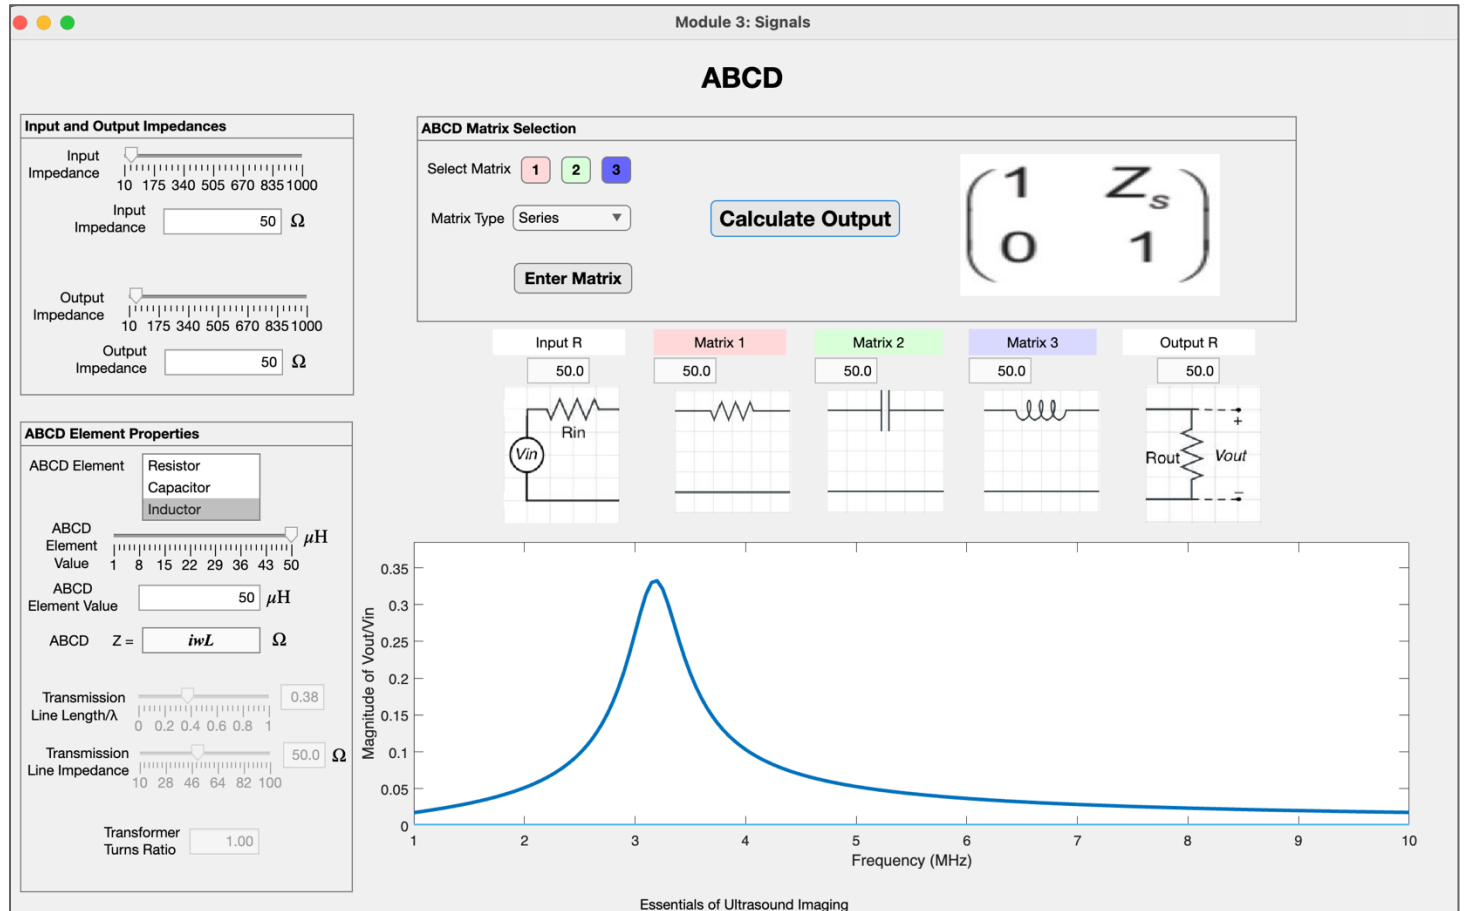

Figure 23: ABCD Simulator GUI
4. After defining the circuit, select the Calculate Output button to display the frequency spectrum of the transfer function expressed as a relative ratio of the output voltage across the  $R_{out}$  terminal and the input voltage  $V_{in}$  shown as a plot at the bottom of the GUI. In this example, a resonance peak is displayed in Figure 23. Figure 23